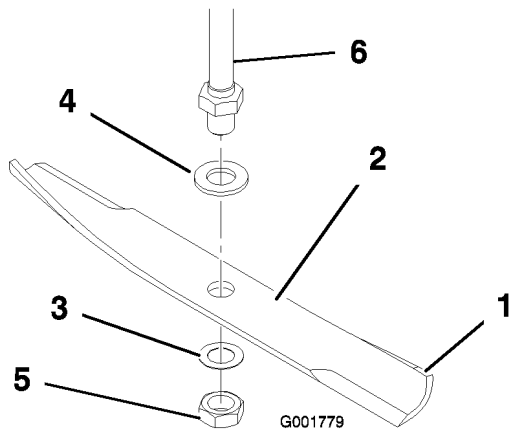

Figure 38
Hold the blade end using a rag or thickly-padded glove. Remove the blade bolt, curved washer, blade stiffener, and blade from the spindle shaft (Figure 38).
1. Install the large flat washer and the blade onto the spindle shaft (Figure 38).
2. Install the small flat washer, and the blade nut (Figure 38). Torque the blade nut to 80-100 ft-lb (108-135 N·m).